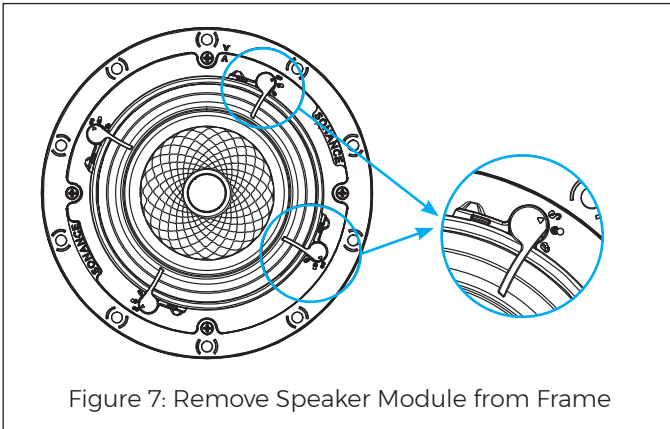

Figure 7: Remove Speaker Module from Frame
- Remove the speaker module from the frame (see Figure 7).